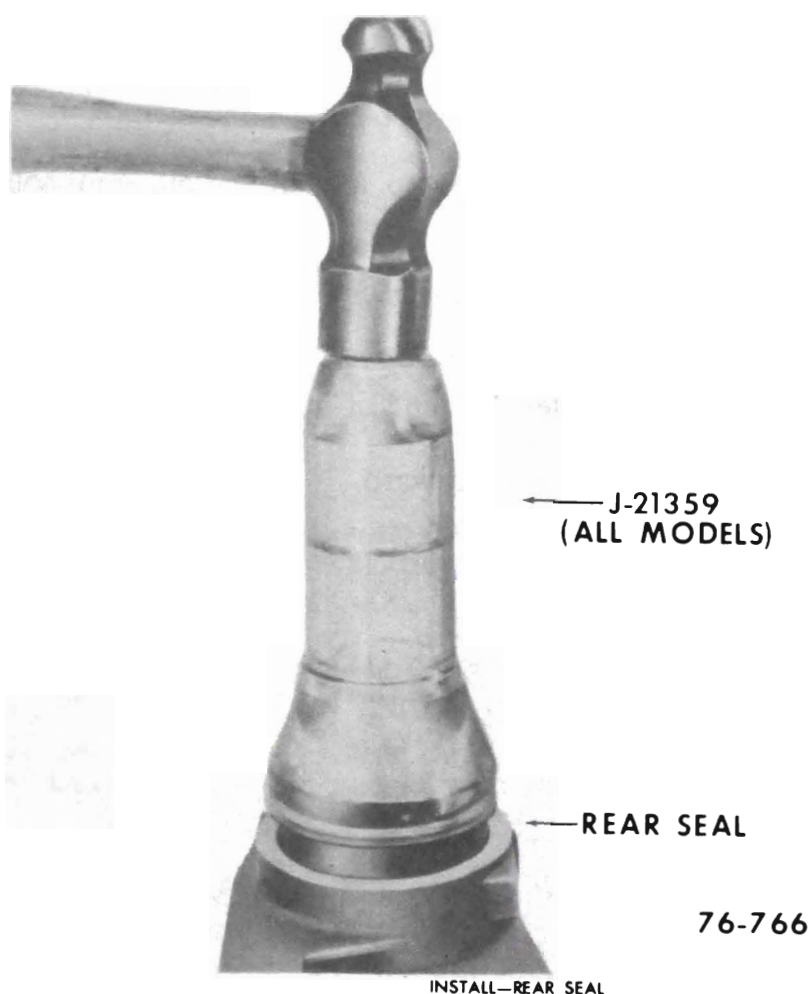

Figure 76-261
3. If necessary, install a new rear seal, coat the outside diameter with a good sealer and using Tool J-21359 drive the seal in place. See Figure 76-261.